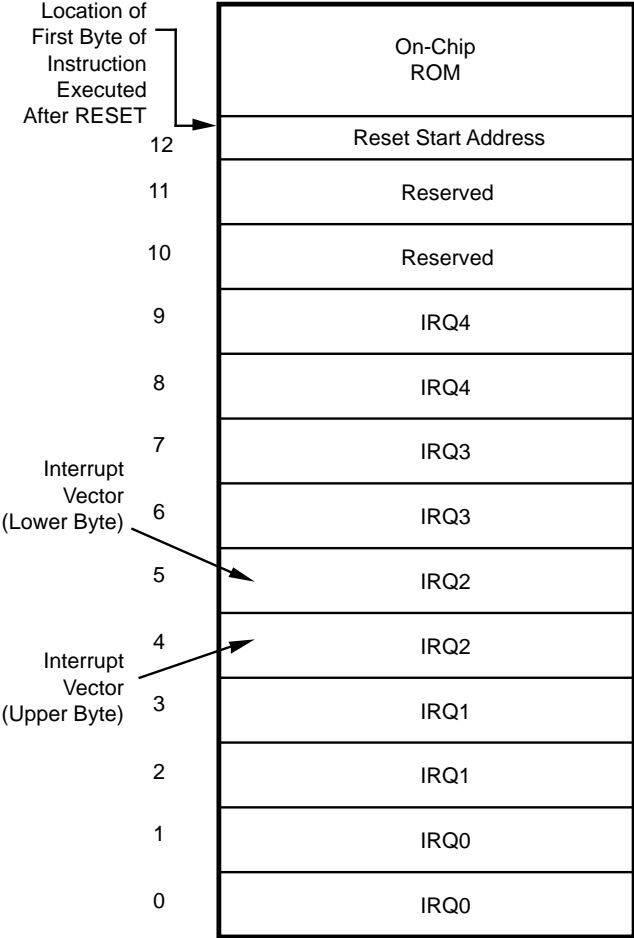

Figure 13. Program Memory Map
**Program Memory.** The Z86L7X addresses up to 2K, 4K, 8 KB of internal program memory, with the remainder being external memory (Figure 13). The first 12 bytes of program memory are reserved for the interrupt vectors. These locations contain five 16-bit vectors that correspond to the five available interrupts. Addresses 12 to 2K, 4K, 8K (dependent on version) consist of on-chip mask-programmed ROM.